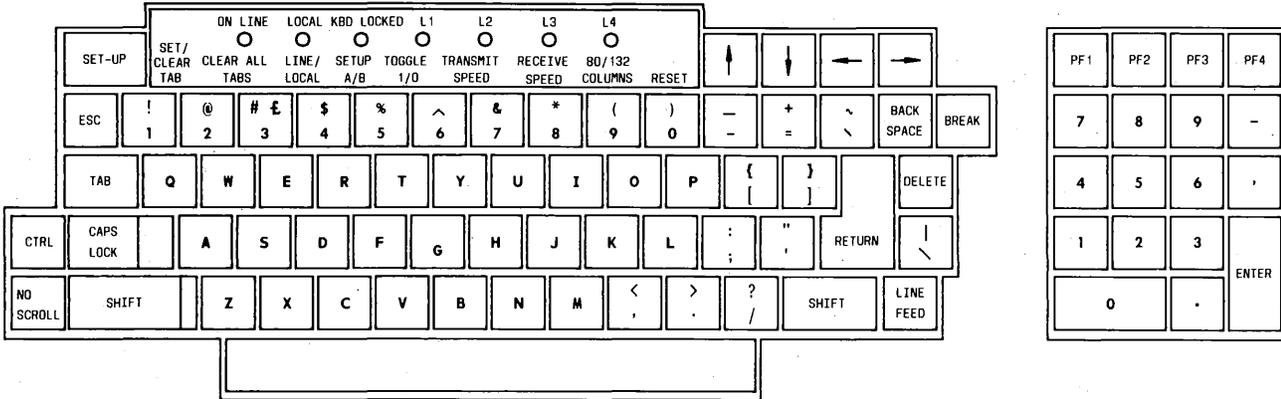

Fig. 23—VT100 Keyboard (Generic 1)
10.01 The following describes the setup procedures for the VT100 terminal (Fig. 23 for Generic